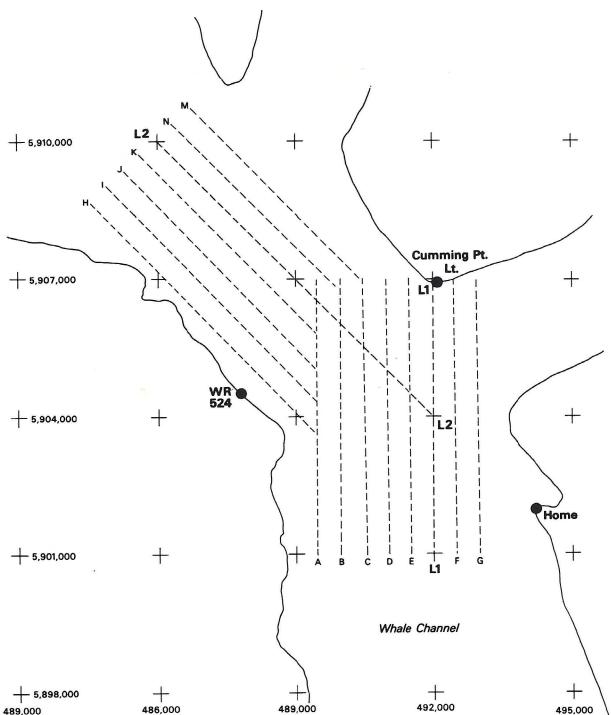

Fig. 3 Configuration of Sounding Lines
4. Co-ordinates of start and end of basic survey lines to be run. Here the computing ability of the MRDP is a great time saver as many parallel offsets may be run from one defined line, so the co-ordinates of each line actually covering the work area don't have to be determined, just one line with so many parallel offsets (Figure 3).
To help explain the use of this system the actual set up used on a side scan sonar survey in Whale Channel (approaches to Kitimat, B.C.) is shown. Figure 3 shows the area and the survey stations used, along with lines that were run. Transponders were placed at stations HOME, WR 524 and on Cumming Point Light. Two basic lines (marked L1 and L2) were easily defined by start and finish points on even grid intersections, Line 1 along Easting 492 000 (X co-ordinate) from Northing 5 901 000 to 5 907 000 (Y co-ordinates) and Line 2, 492 000 and 5 904 000 to 486 000 and 5 910 000. To avoid bad fixes along the baseline various combinations of the transponders were selected. Offsets A, B, C, D and E were run on HOME and the light. Line 1 and offsets F and G on the light and WR 524. The south-easterly portion of offsets H, I, J and K were run on HOME and the light, and the north-westerly portion on WR 524 and the light. Line 2 and offsets L and M were run on WR 524 and the light. To switch from one pair of transponders to the next or to change direction of lines is very easily done with this system. At the start of a day all line and site data is recorded in the MRP memory (up to 16 sites and 10 lines can be stored) so that at the end of any line, the "Escape" button is pushed on the terminal, the system enters the Pause Mode, and a new line or sites are selected in a matter of seconds. Details on these procedures are well documented in the Operation and Installation Manual supplied with the system and, after a couple of days use, the average hydrographer will rarely need to refer to the manual to manipulate the system to its fullest.